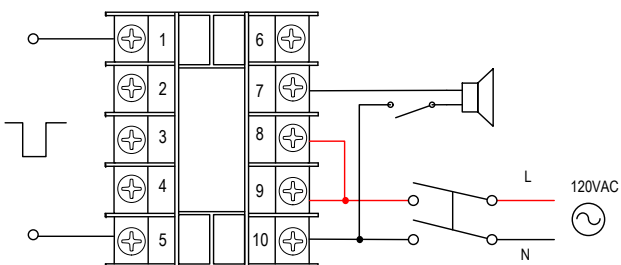

Figure 5. Rising-edge triggered signal.
- 6.a) Connecting a normally open (NO) momentary push button switch between the terminal (3, 4 or 5) to the COM (1). Please note, the function starts when you release (or open) the button of the switch, not when you press down the switch. See Figure 5.